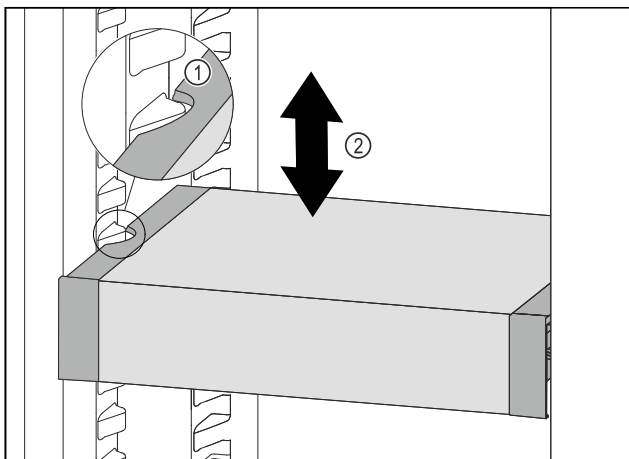

Fig. 201
- Pull VarioSafe forwards until the recesses in the side of the VarioSafe are at the level of the support rib in the refrigerator compartment. Fig. 201 (1)
- Move VarioSafe up or down in the refrigerator compartment until the desired height is reached. Fig. 201 (2)